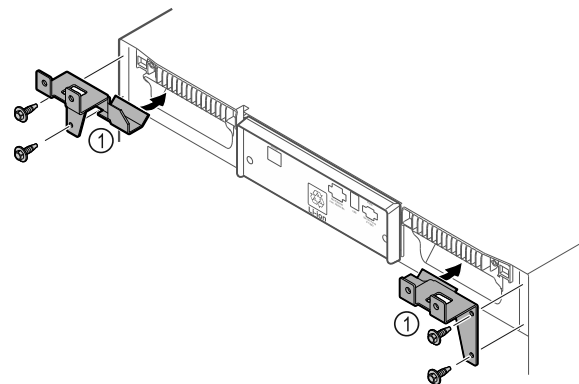

Fig. 12
- ▶ Assemble the retaining parts Fig. 12 (1) with the self-tapping screws on the appliance.